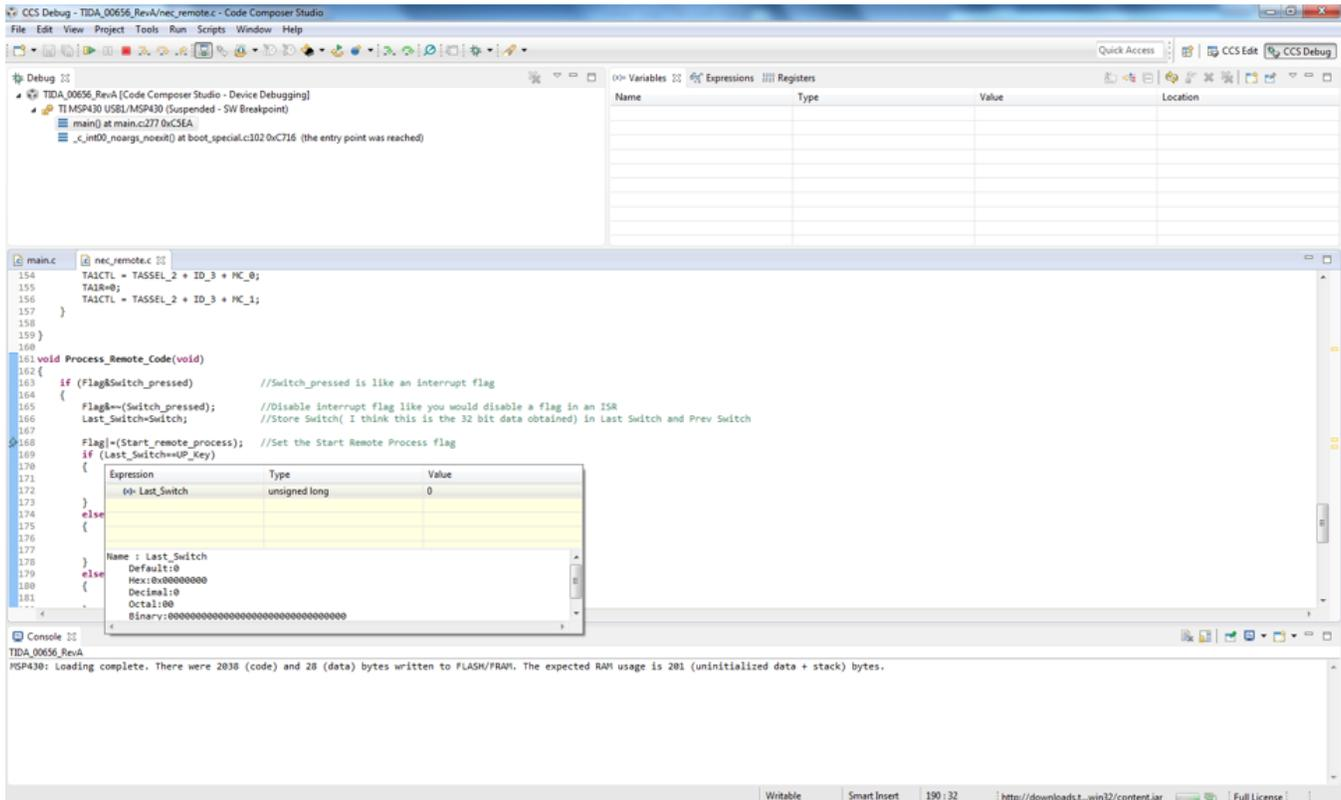

Figure 7. Placing Breakpoint for IR Key Code Programming
- After downloading the program, a break must be placed at the function *Process_Remote_Code ()* in the *ir_remote.c* file, as the following Figure 7 shows.